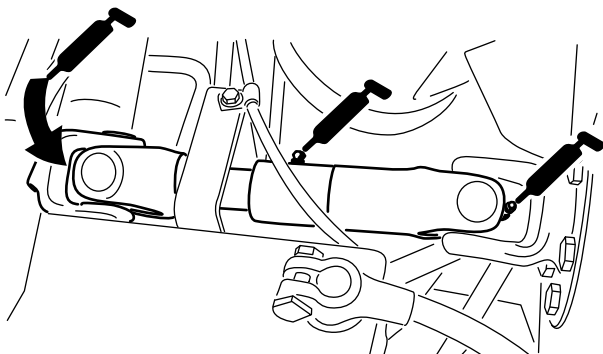

Figure 53
- Pump drive shaft U-joint (3) (Figure 53)